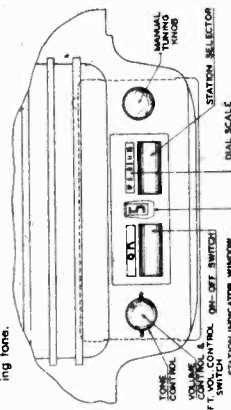

Fig. 2. Front View
1. Press Automatic Tuning Station Selector (Fig. 2) several times or until the letter "M" appears in indicator window.